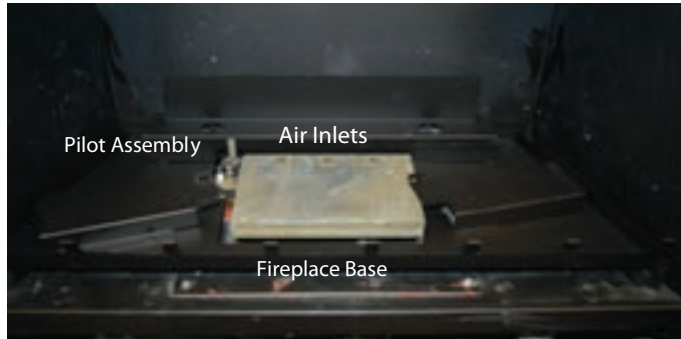
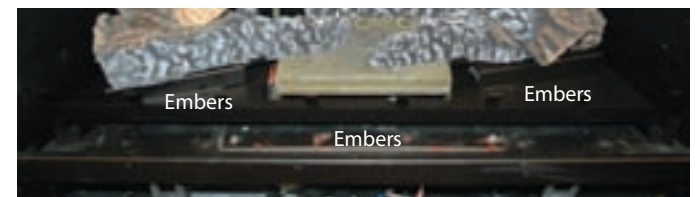

Figure 8a. H34VO\*s Fireplace Base.
Figure 8f. Placing Embers.
**Step 7.** Place the Embers as shown in **figure 8f**. Arrange the ember chips on top of the burner tray. Care should be taken when placing the embers, as blocked burner ports may cause an incorrect flame pattern, carbon deposits and delayed ignition. Also, the embers must never be placed in a way that obstructs any of the air inlet ports, located at the rear of the burner, as shown in **figure 8a**.